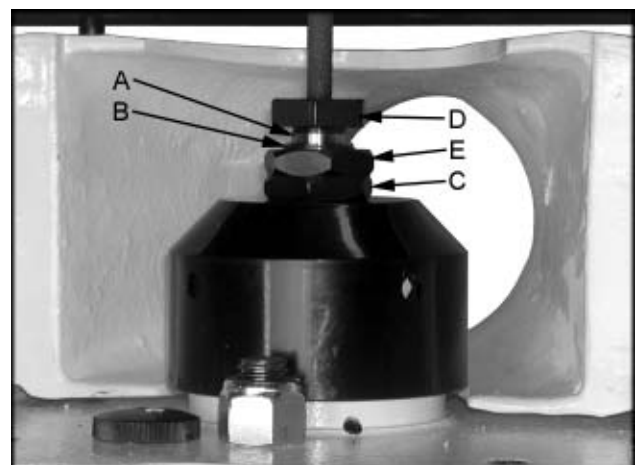

Fig. 3
2. Thread the arbor (A, Fig. 3) into the arbor housing (B, Fig. 3).
3. Use the provided wrenches to hold the lower arbor housing nut (C, Fig. 3) while turning the arbor nut (D, Fig. 3) clockwise.
2. Use the provided wrenches to hold the upper arbor housing nut (E, Fig. 3) while turning the arbor nut (D, Fig. 3) counter-clockwise.